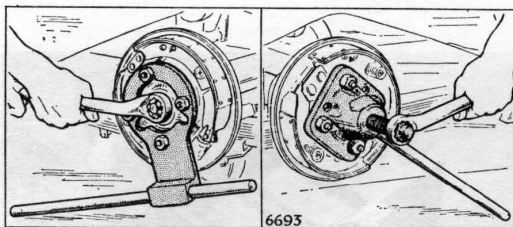

Fig. 4. Removing rear hub
*Cars with disc wheels (see Fig. 4)*